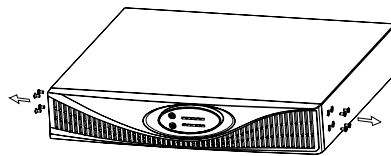
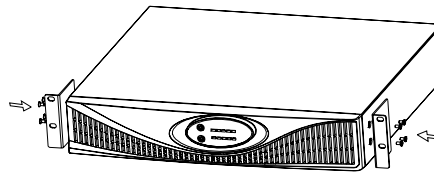

Figure 2-5 Removing flat screws
Figure 2-6 Installing brackets
1. Take out the pair of brackets delivered with the power module; remove the four flat screws M4*8 on both sides of the module, as shown in Figure 2-5; and fix the brackets onto both sides of the module using the flat screws, as shown in Figure 2-6.